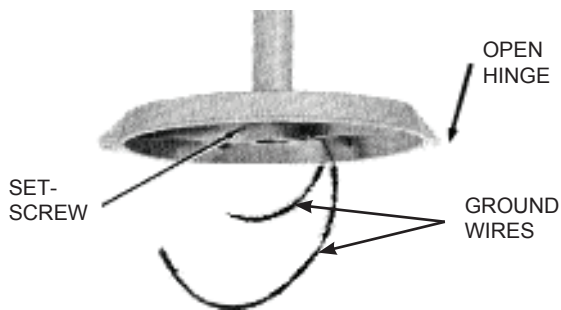

FIGURE 1
- **Pendant, Stanchion and Quad mount:** Securely thread onto the appropriate NPT size conduit. Tighten setscrew located in the conduit hub. See Figure 1.